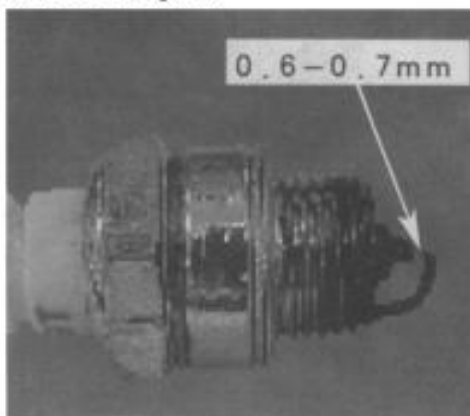

Fig 16
- d. The plug model of this machine is 4106J. Do not use other models. If it is necessary for change, may buy it from local agricultural department or plant protection department, as shown in Fig. 16.